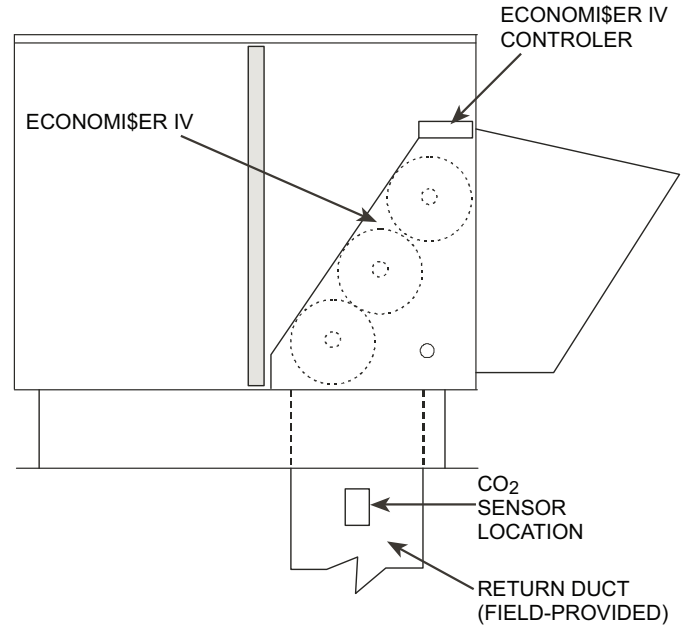

Fig. 3 — CO₂ Sensor Location
See Fig. 1 for CO₂ sensor dimensions. This accessory package also includes an aspirator box. See Fig. 2 for aspirator box dimensions. The sensor and aspirator box are installed in the return air duct. (See Fig. 3 or 4.)
7. Route wiring harness from the EconoMiSer IV controller to the sensor mounting location in the return air duct using metal clips and wire ties to organize and protect the harness. (See Fig. 3.)